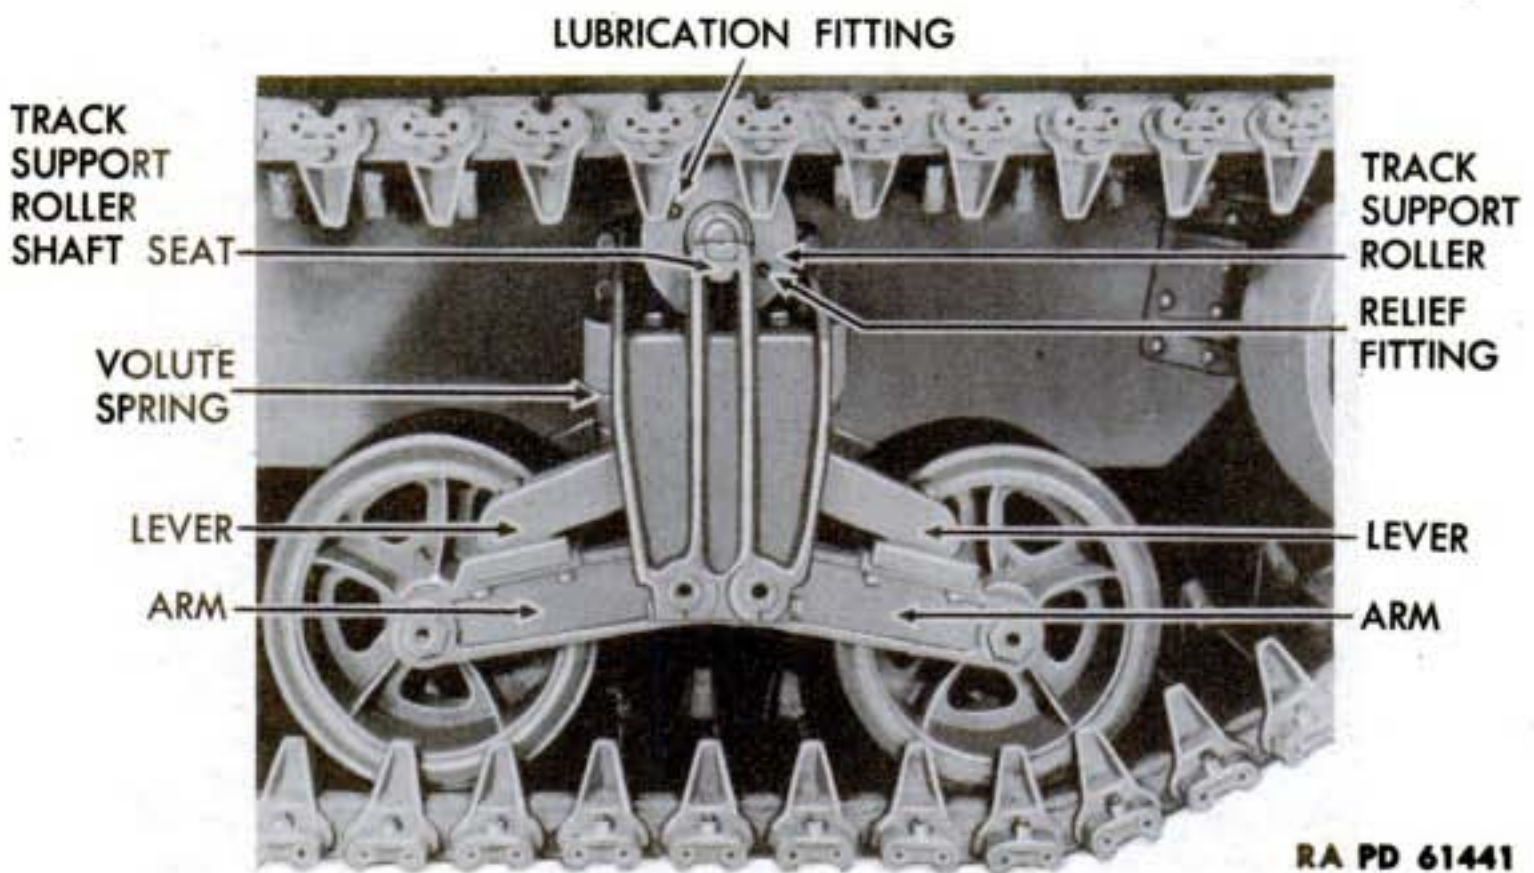

Figure 137—Bogie Assembly (Early Type)
a. Description. The center section of each track is supported and guided by three track support rollers. One support roller is mounted on each bogie. On earlier models, the rollers were mounted on top of bogie brackets (fig. 137). On later vehicles the support rollers are mounted in a bracket bolted to rear side of the bogie (fig. 133).